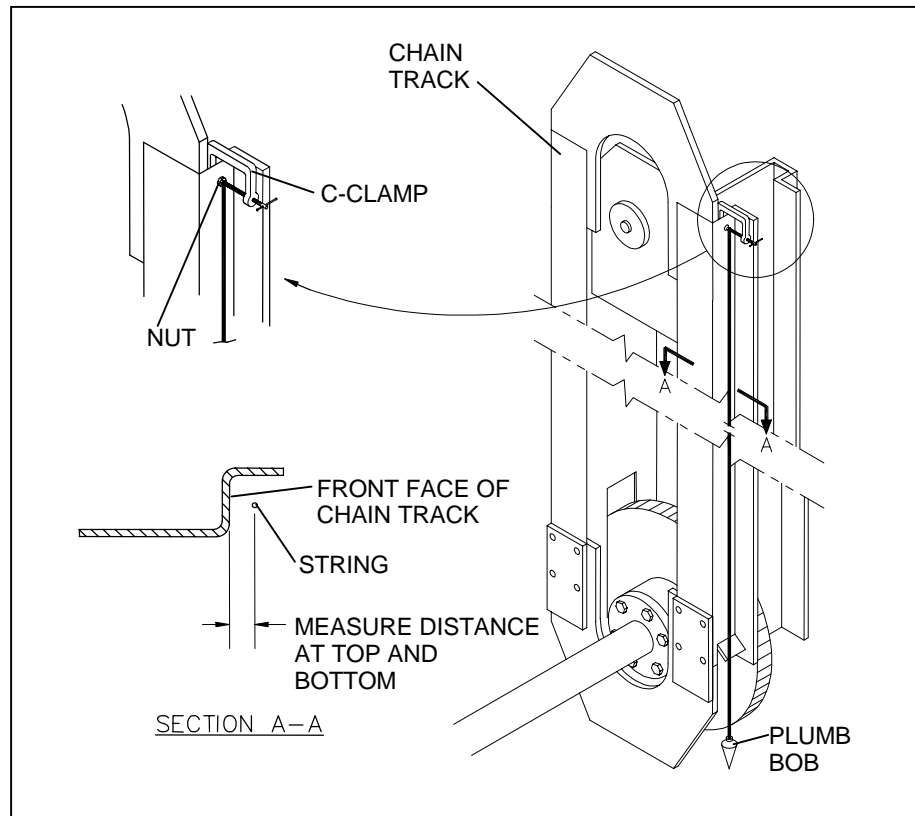

Figure 19. FRONT-TO-BACK LEVELING
2. Inside the unit, attach plumb bobs at the top of the left and right chain tracks. Use 5/16-inch nuts to space the strings away from the front surfaces of the chain tracks. Secure with C-clamps (see Figure 19).